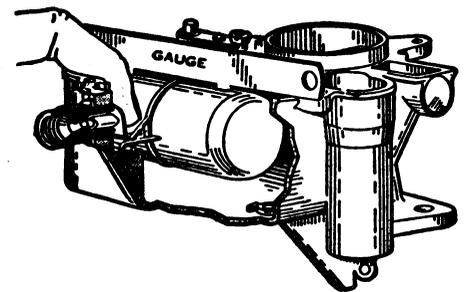

Fig. 42 Carter BB float adjustment
**Units With Solid Needle**—This adjustment must be made with the bowl cover gasket and float pin retainer removed. Hold the lip on the float arm against the seated intake needle, Fig. 42, making sure the float pin is at the bottom of its guide slots. The distance from the top surface of the body casting to the top of the float should be as given in the *Carburetor Specifications* table. Adjust by bending lip on float.